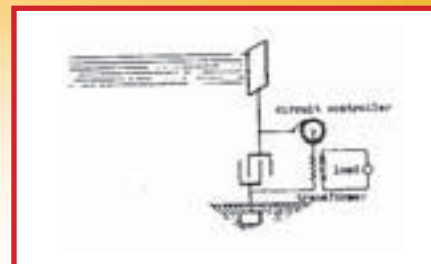

Figure 3. Tesla's free-energy receiver.
We also know that Tesla had plans to tap energy from space. He had the idea of using a large metal plate and draw off the energy using a sort of mechanical rectifier (Figure 3). Just like Stubblefield, Tesla became a recluse. He held annual meetings with journalists, where he made several remarkable predictions. In honour of his memory, the unit of magnetic flux density is called the Tesla (T).